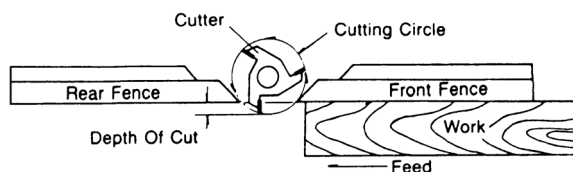

Figure 9
1. For most work, where a portion of the edge of the work is not touched by the cutter, both the front and rear fences are in a straight line, as shown in Figure 9.